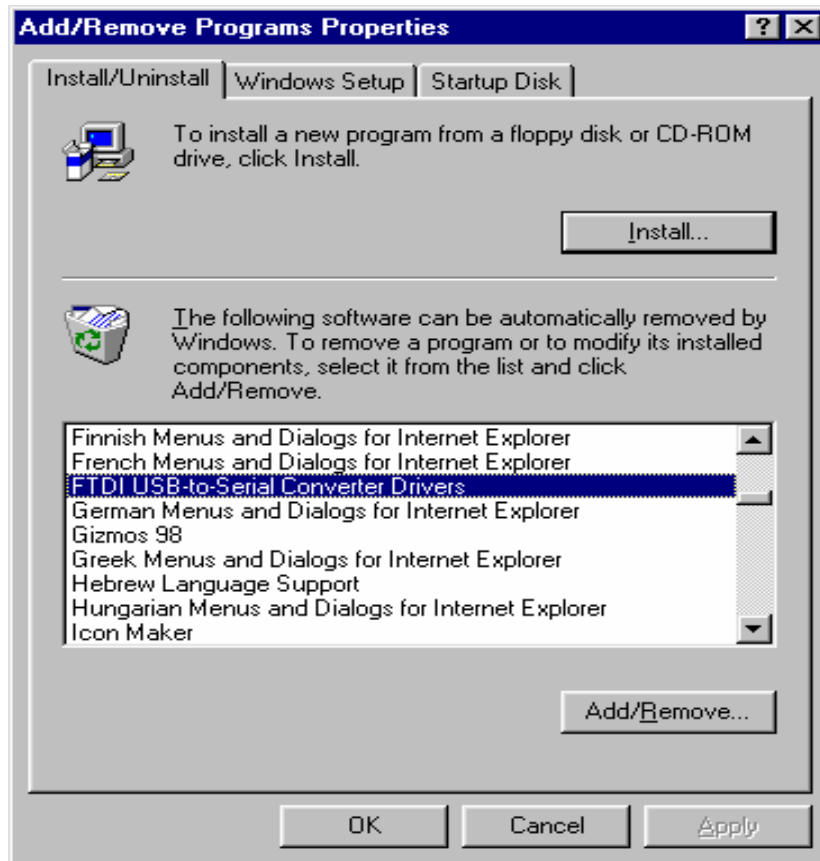

Figure 34
4. Select **FTDI USB-to-Serial Converter Drivers** (Figure 34).
5. Click the **Add/Remove** button (Figure 34).